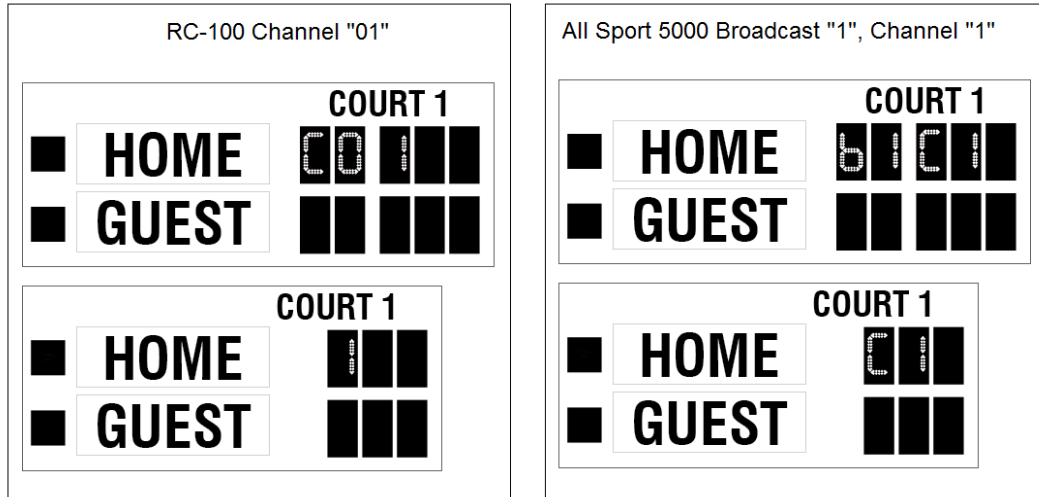

Figure 21: Radio Settings in Game/Set Digits
2. Cycle power to the scoreboard, and watch for the radio settings (**Figure 21**).